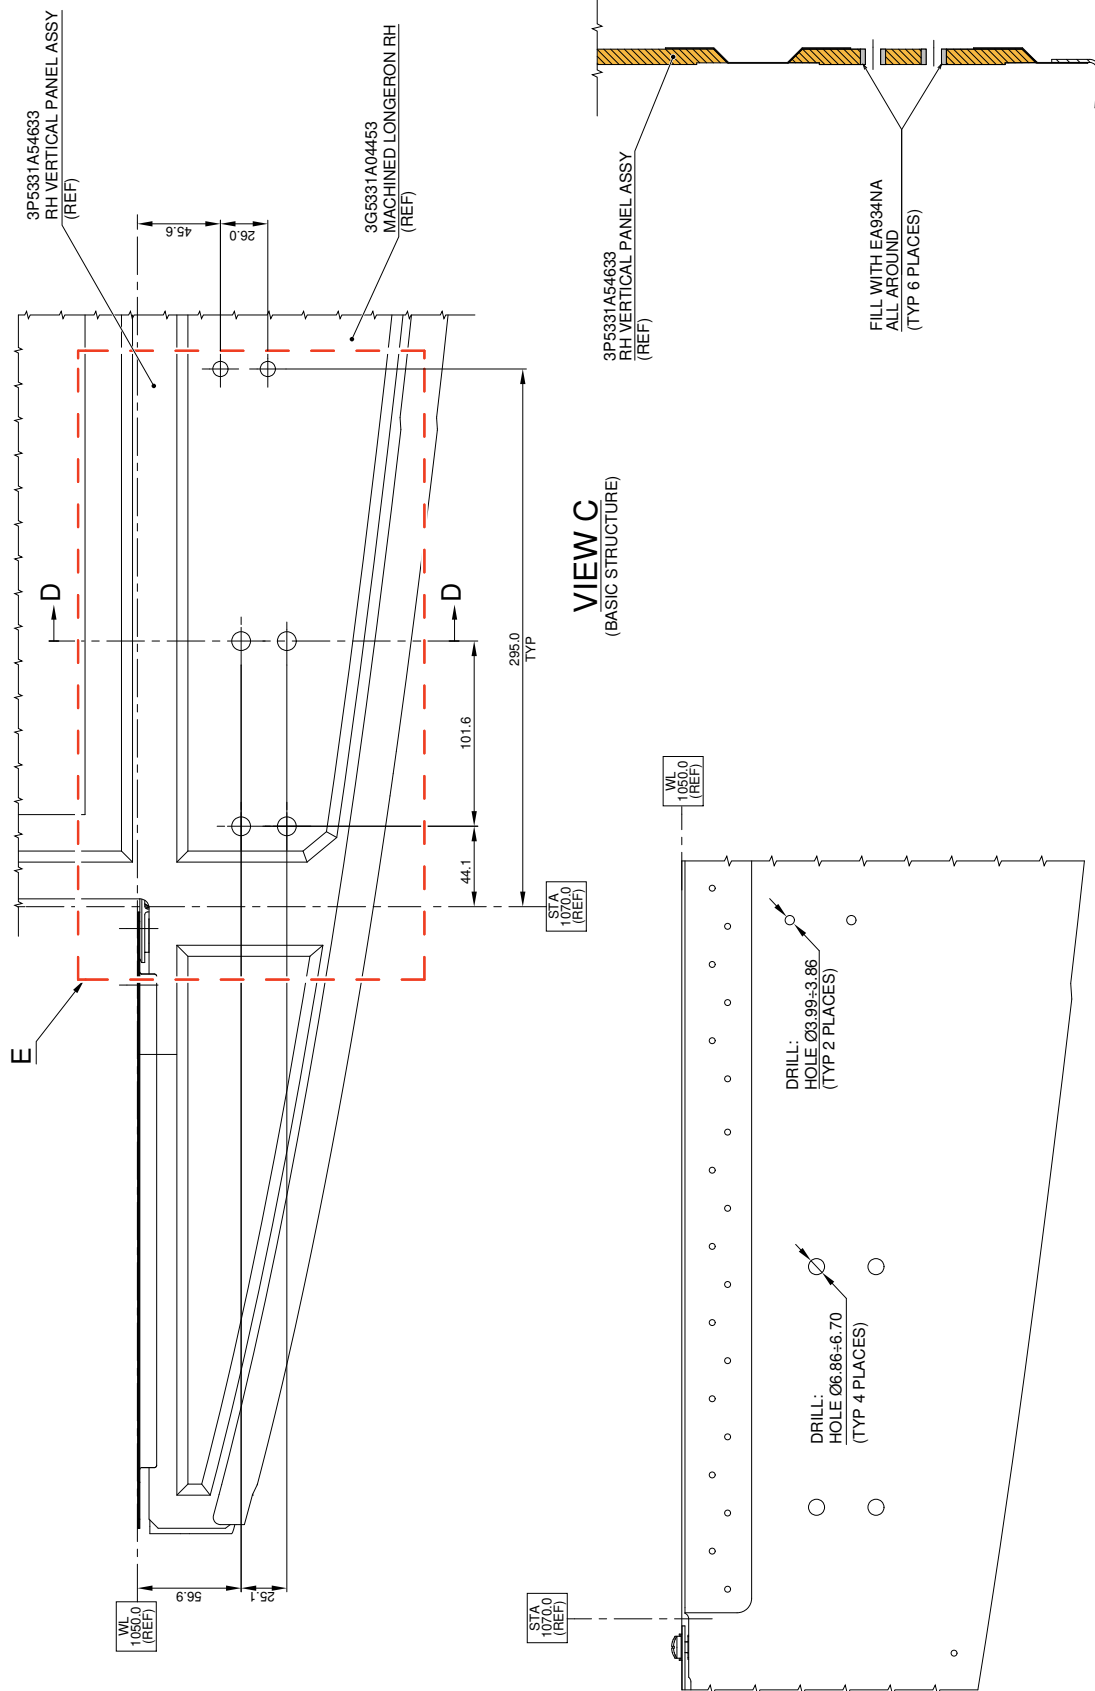

Figure 3
7. With reference to Figure 3, drill n°4 holes \varnothing 6.70 \pm 6.86 and n°2 holes \varnothing 3.86 \pm 3.99 in correspondence of indicated positions on machined longeron RH P/N 3G5331A04453.
8. With reference to Figure 3 Section D-D, fill with adhesive EA934NA (C397) all around previously drilled holes.